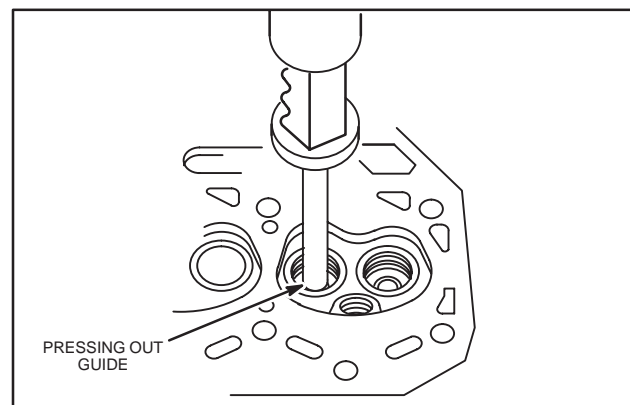

Fig. 15 – Remove Valve Guide Bushing
- a. Use bushing driver, Tool #19367, and press out valve guide bushing from combustion chamber side as shown in Fig. 15.